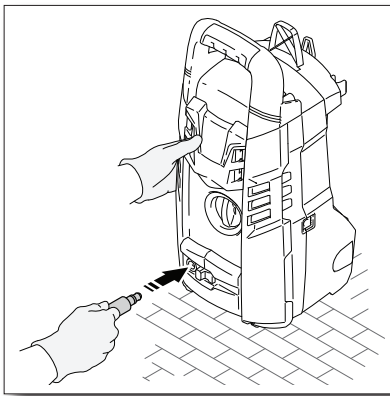

Fig. 1
- Attach the 20’ soft PVC high pressure hose to the unit by pressing firmly into the front port (**Fig. 1**).